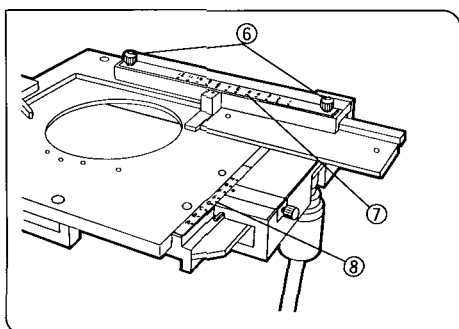

Fig. 15
1. Loosen the two clamping knobs ⑥ at the top of the stage's X-axis guide. Positioning the scale numerals correctly, place the X-axis scale ⑦ on the guide. Then tighten the clamping knobs. (Fig. 15)
2. Positioning the scale numerals correctly, place the Y-axis scale ⑧ on the top of the stage's Y-axis guide. The scale will be held in place magnetically.